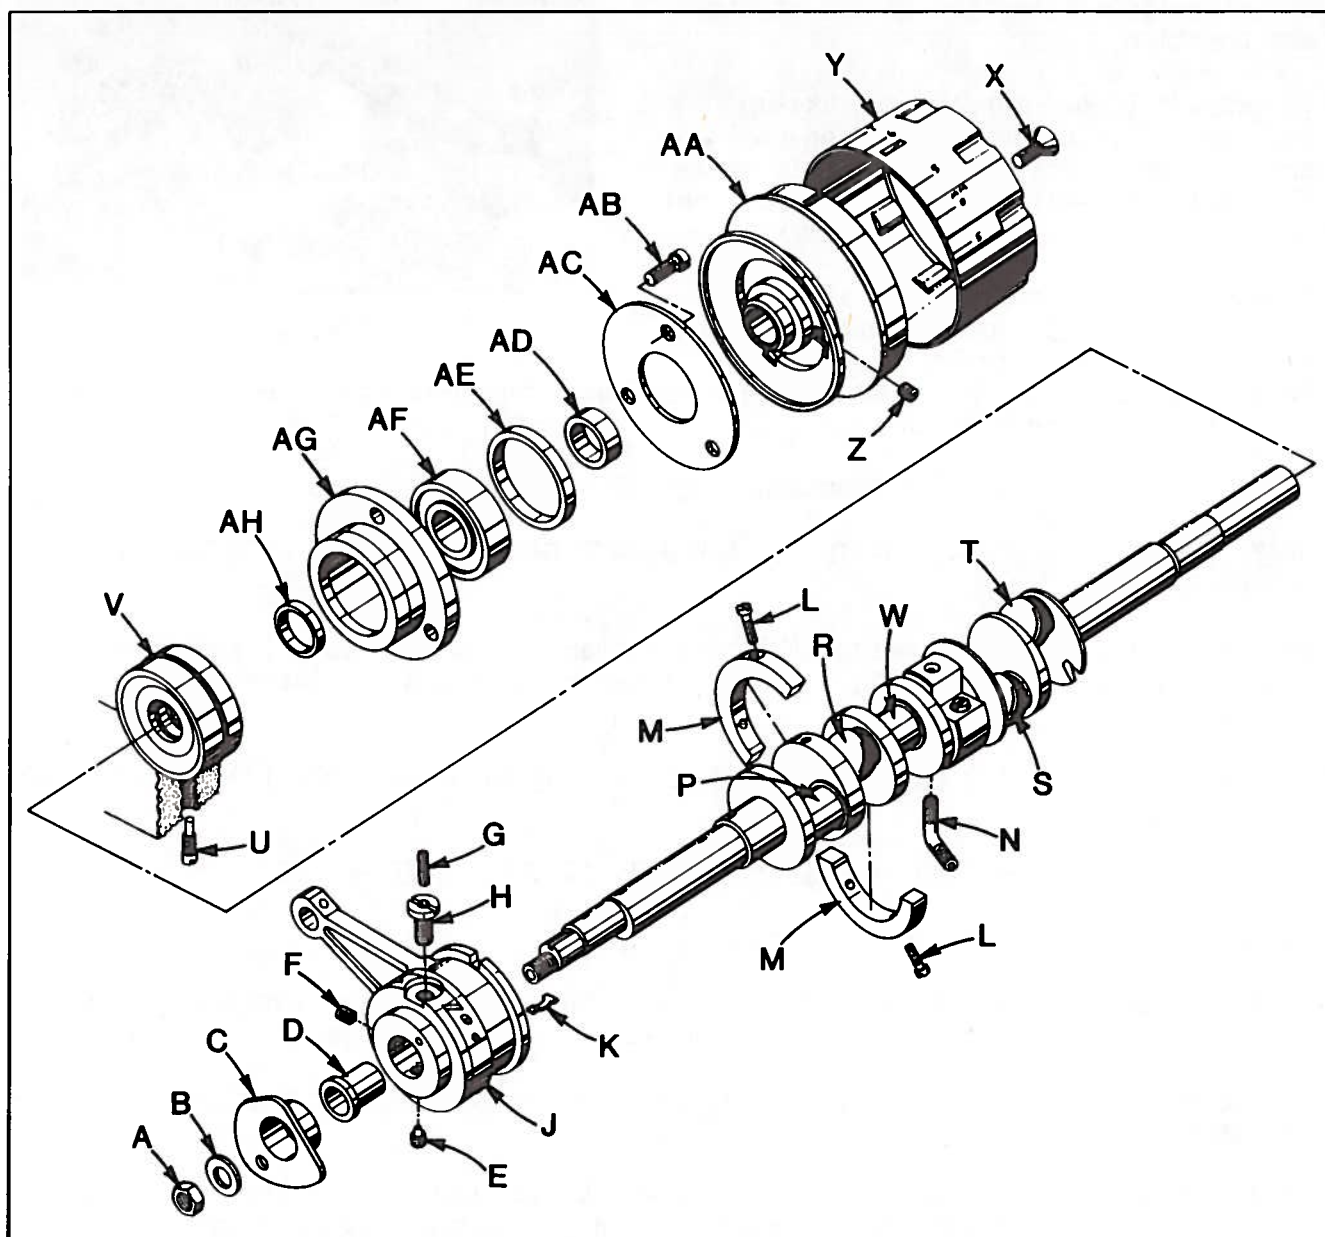
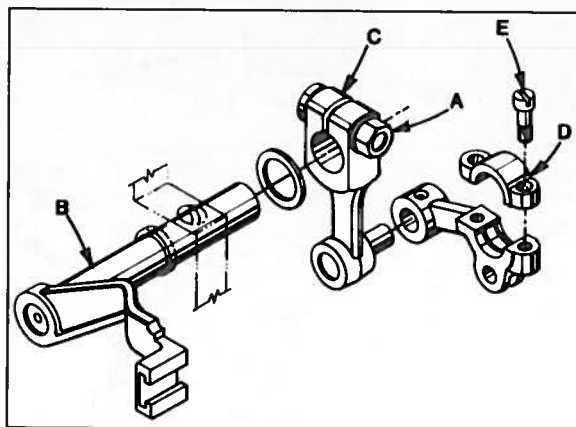

Fig. 38
Fig. 39
1. Remove nut (A, Fig. 38), washer (B), 401 looper thread take-up (C) and take-up spacer (D). Loosen screws E, F, G and H securing stitch regulator assembly (J) to crankshaft.
4. Remove inner crankshaft bearing stud (U), to allow inner crankshaft bearing (V) to slide out with crankshaft.
5. Loosen clamp nut (A, Fig. 39). Slide upper knife driving arm (B) to the left until driving lever (C) drops off arm (B) allowing bearing cap (D) to be positioned for removal. Remove two screws (E) and bearing cap (D) - Ref. point (W, Fig. 38) on crankshaft.
6. Remove screw (X) and take off pulley cap (Y).
7. Loosen two screws (Z) and slide belt pulley (AA) off crankshaft.
8. Remove three screws (AB), bearing plate (AC), spacer collars AD and AE.
10. To re-assemble crankshaft, follow steps outlined for removal in a reverse manner. During re-assembly, check exploded views for proper positions of parts on crankshaft. Rotate pulley cap (Y) periodically during re-assembly to be sure no binding occurs.
11. In order to re-assemble stitch regulator assembly (J) correctly on crankshaft, tool No. 21270 DP is required. Slide tool (A, Fig. 40) through stitch regulator assembly and rotate tool until its slot slips into tension spring (B) positioned in stitch regulator mechanism. Thread tool onto crankshaft and slide crankshaft through stitch regulator, then unscrew and remove tool. With stitch regulator assembly positioned on crankshaft, turn handwheel in operating direction until first screw hole of stitch regulator assembly (J) aligns with timing groove on crankshaft for spot screw (E, Fig. 38), then insert and tighten spot screw (E); continue to rotate handwheel until hole for screw (F) is visible, then insert and tighten set screw (F). To secure inner lock screw (G) and limiting screw (H) - SEE INTERNAL FEED ADJUSTMENT.